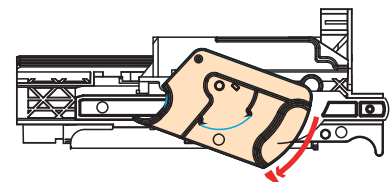

Figure 4-13
5. Turn the closing lever; the brewer will open (see figure 4-13).